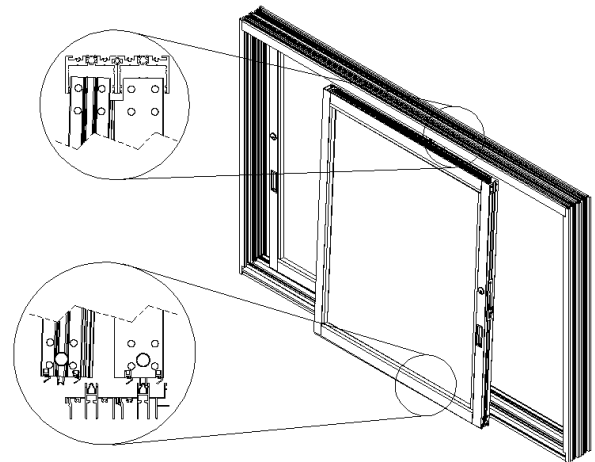

Figure 16:
4. Repeat for remaining panels ensuring the panels interlock properly (Figure 16).